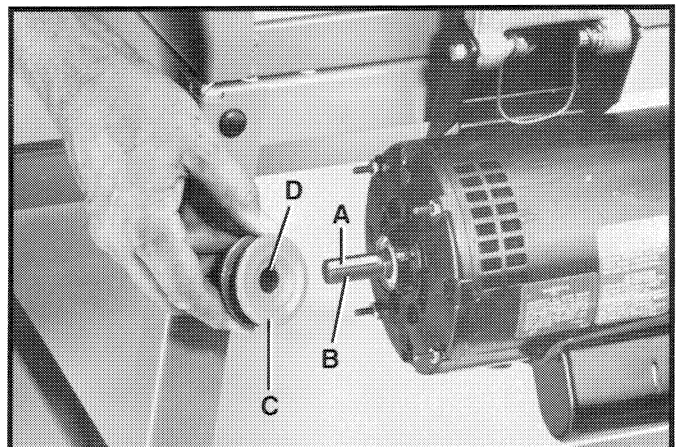

Fig. 15
2. Insert key (A) Fig. 15, in the keyway on motor shaft (B) as shown. Assemble motor pulley (C) on motor shaft (B) making sure keyway (D) in motor pulley is aligned with key (A) on motor shaft. The hub of the pulley should be in the outward position.